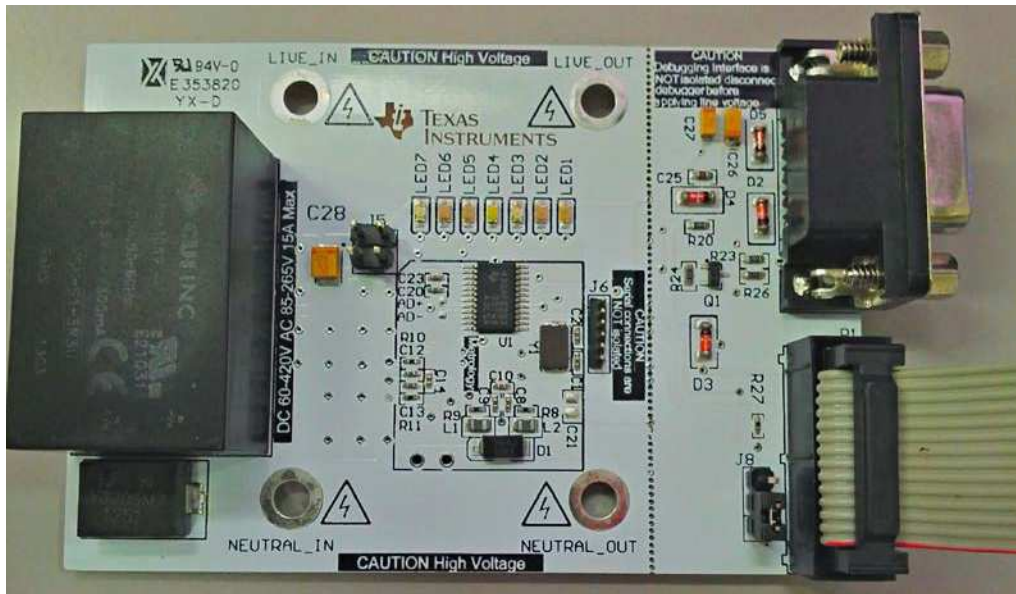

Figure 22. Connecting the EVM and FET
8. Remove the 2 jumpers on J5, make sure the jumper on J8 is short properly. Connect the 14 pin connector P1 to FET by a flat cable as shown in Figure 22